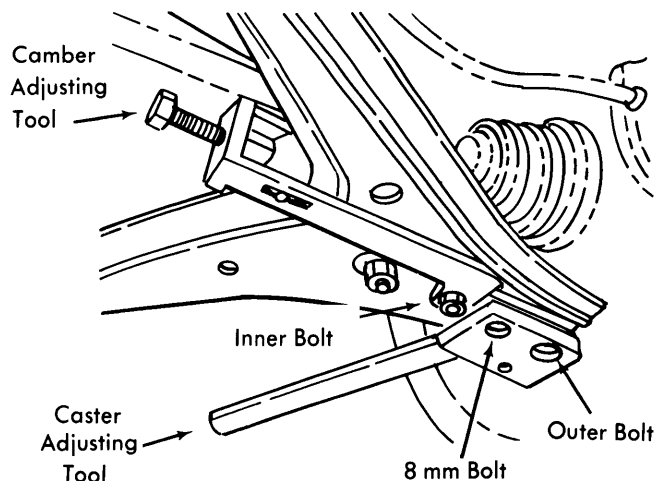

Fig. 1 Adjusting Caster and Camber on Audi 100 with Special Tool. Fox Camber Adjusting Tool is Similar
Model 100 — 1) With vehicle equipped with spare tire and full fuel tank, measure caster and camber angle. If not to specifications, remove inner ball joint-to-lower control arm mounting bolt and install camber adjusting tool (US 9020) as shown in Fig. 1. Install and slightly tighten an 8 mm bolt and washer in threaded hole between inner and outer ball joint mounting bolts on lower control arm, then loosen outer mounting bolt. Tighten tensioner bolt on adjusting tool to break loose ball joint, then tighten or loosen tensioner bolt until camber angle is set to specifications.
2) To adjust caster angle, leave camber adjusting tool installed to maintain adjusted camber angle, then install caster adjusting tool as shown in Fig. 1. Adjust caster angle to specifications by moving ball joint forward or backward by means of adjusting tool. Hold adjusting tool stationary and tighten outer ball joint mounting bolt to 80 ft. lbs. (11 mkg). Remove caster and camber adjusting tools and tighten inner bolt to 47 ft. lbs. (6.5 mkg), then remove 8 mm bolt and washer.